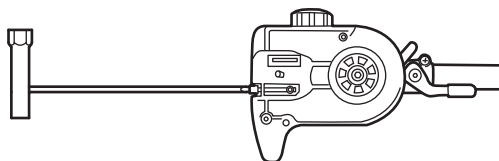

Fig. 8c
d). Ensure that the tension pin (D11) is adjusted to its far right position. If not, turn the tension screw (D12) anticlockwise with the slotted screwdriver (E6). (See Fig. 8c)